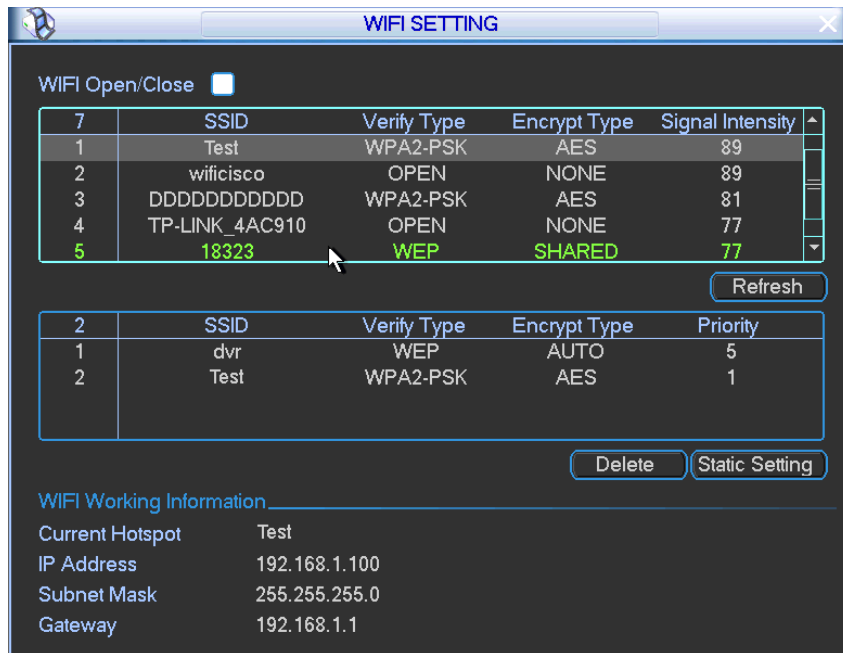

Figure 4-3
- WIFI working information: After system successfully connected to WIFI, you can view hotspot name, IP address, subnet mask, default gateway and etc. See Figure 4-3.